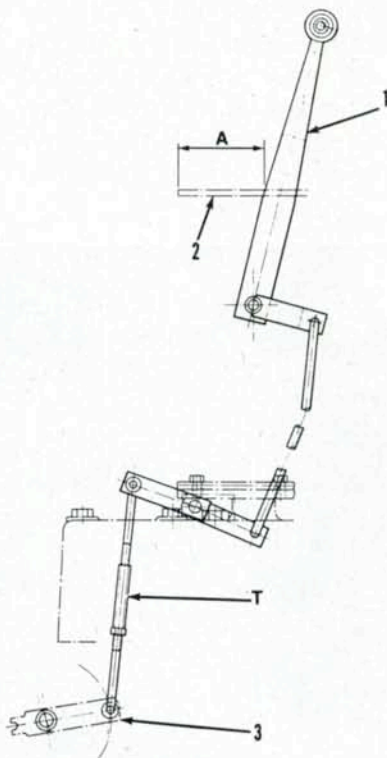

Fig. 252—View showing adjustment points for pto control linkage.
183. To adjust pto control rod, refer to Fig. 252 and place pto control handle (1) in OFF position. Adjust turnbuckle (T) so control handle is 4 inches (102 mm) from front of slot (2) in control console.